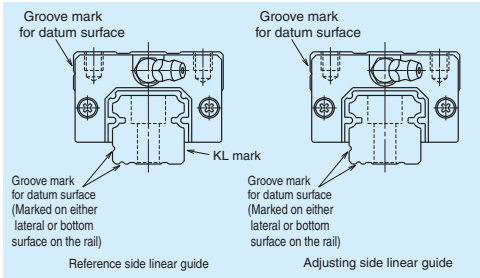

Fig. 10.1 Datum surface
- In case that two or more linear guides are used together, one linear guide is designated as a reference side guide, and the rest is adjusting side guide(s). The reference side linear guide has its reference number, serial number, and "KL" mark on the opposite side of the datum surface (**Fig. 10.1**).